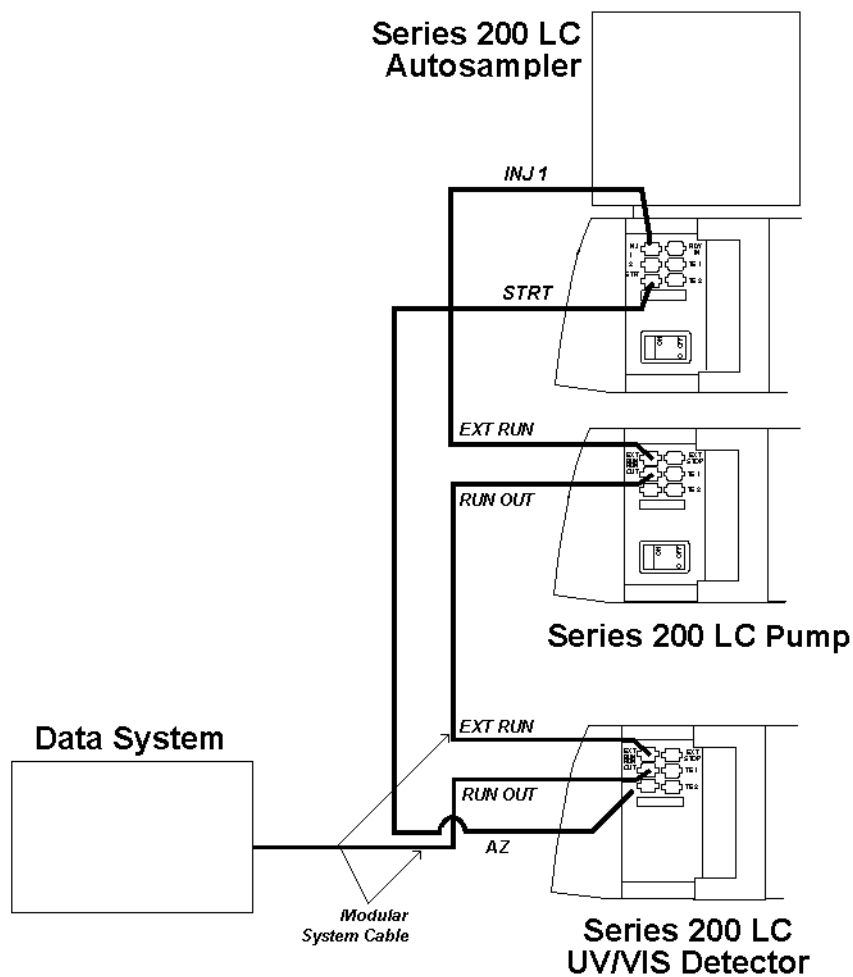

Figure 2-6. System Connection Diagram: Series 200 LC Autosampler, Series 200 LC Pump, Series 200 UV/VIS Detector, and a Data System.
3. Firmly hold the tubing on each side of the scribe mark with smooth jaw pliers, then bend the tubing back and forth to break (see Figure 2-6).